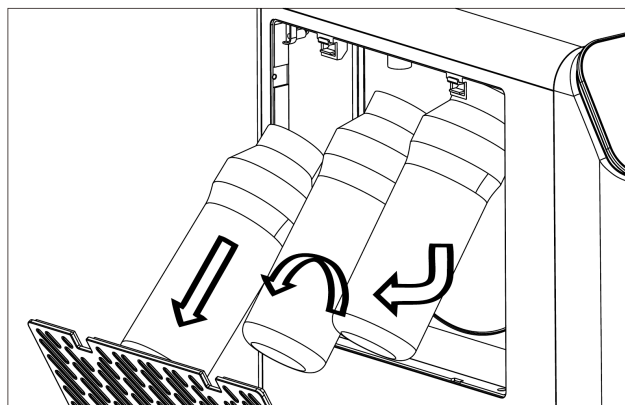

Figure 6 · Turn each cartridge to release it
3. Turn each cartridge clockwise to release it and pull it out (Figure 6).